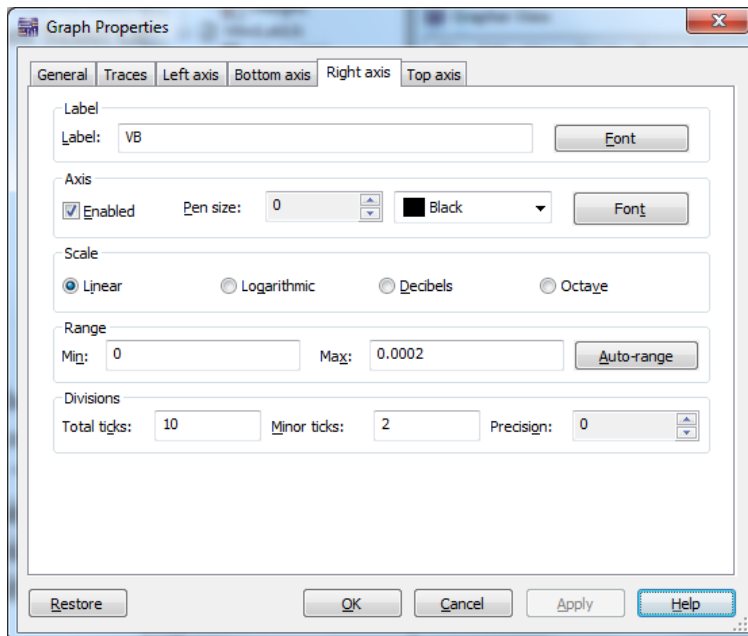

Figure 4
- Fill out the Graph Properties form for the Right axis as in Figure 4 Below.